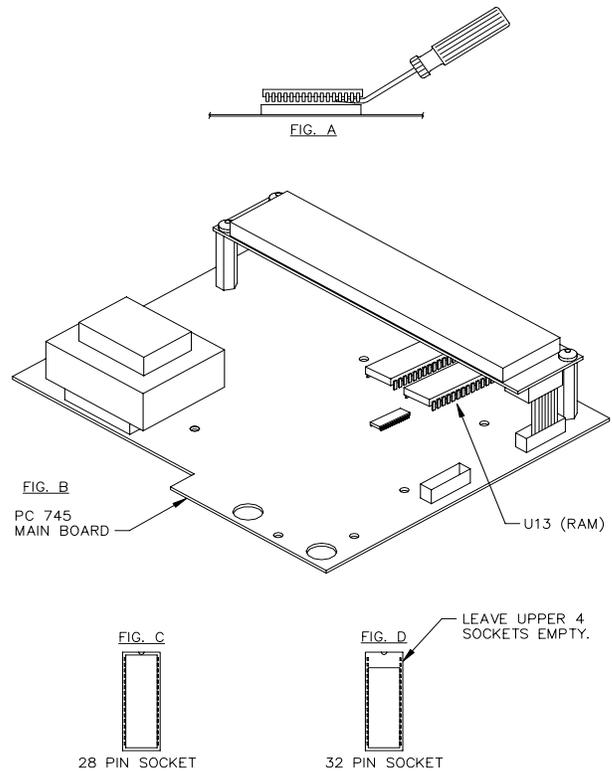

Figure 25 Time/Date Option Installation on Main Board
- e. Refer to figure 25, Time/Date Option Installation on the main board. Locate the U13 RAM IC on the main PC745 board. It is a large 28 pin IC located under the display module, near the display ribbon cable. (Refer to
Fig. B on Figure 25).
- f. Use a small screwdriver and carefully pry the chip up and out of its socket. Do this by sliding the end of the screwdriver between the chip and its socket and lifting up slightly, first at one end of the chip and then at the other end. Alternate the ends being pried until the chip is loose. Be careful where the screwdriver is placed so as not to pry the socket out of the board! (Refer to Fig. A on Figure 25).
pins. The module must be installed shifted toward the bottom of the socket. Refer to Fig. C on Figure 25.